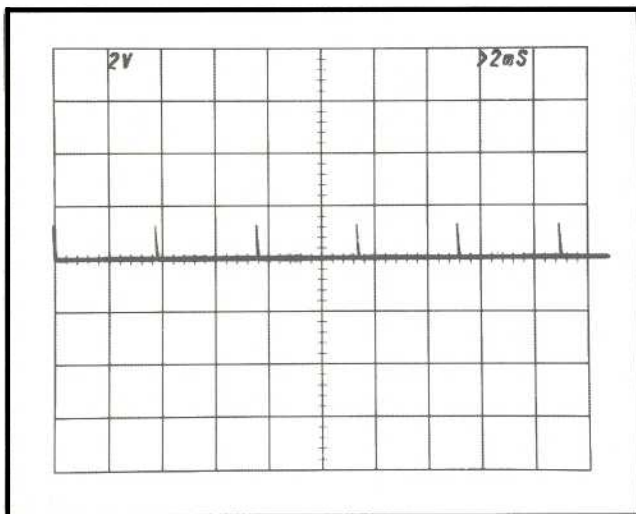
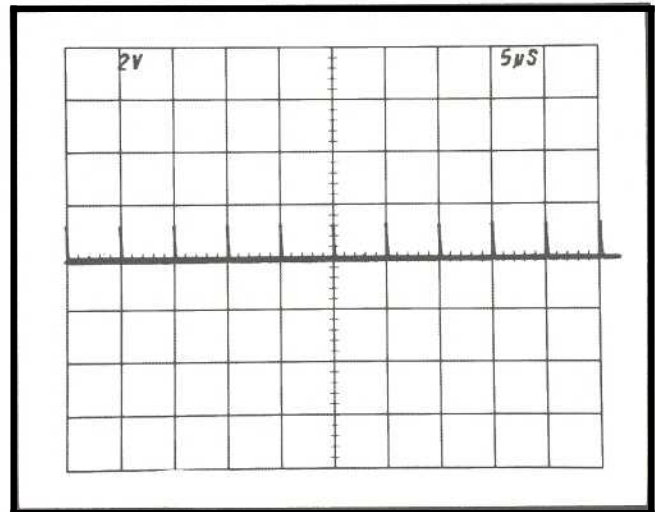

Fig. 5-10. Typical CRT display when checking VARIABLE control range.
Fig. 5-11. CRT display showing correct 5 μ s timing.
c. CHECK—CRT display for a two-division maximum spacing between markers (indicates adequate range for continuously variable sweep rate between the calibrated steps; see Fig. 5-10). Return the VARIABLE TIME/DIV to the CAL IN position.
22. Check/Adjust 5 μ s Timing (C530J) ①
c. CHECK—CRT display for one marker each division between the second and tenth vertical lines. Check that sweep timing is within 0.16 division (2%) over the center eight divisions. See Fig. 5-11.
23. Check/Adjust .2 μ s Timing (C530L) ①